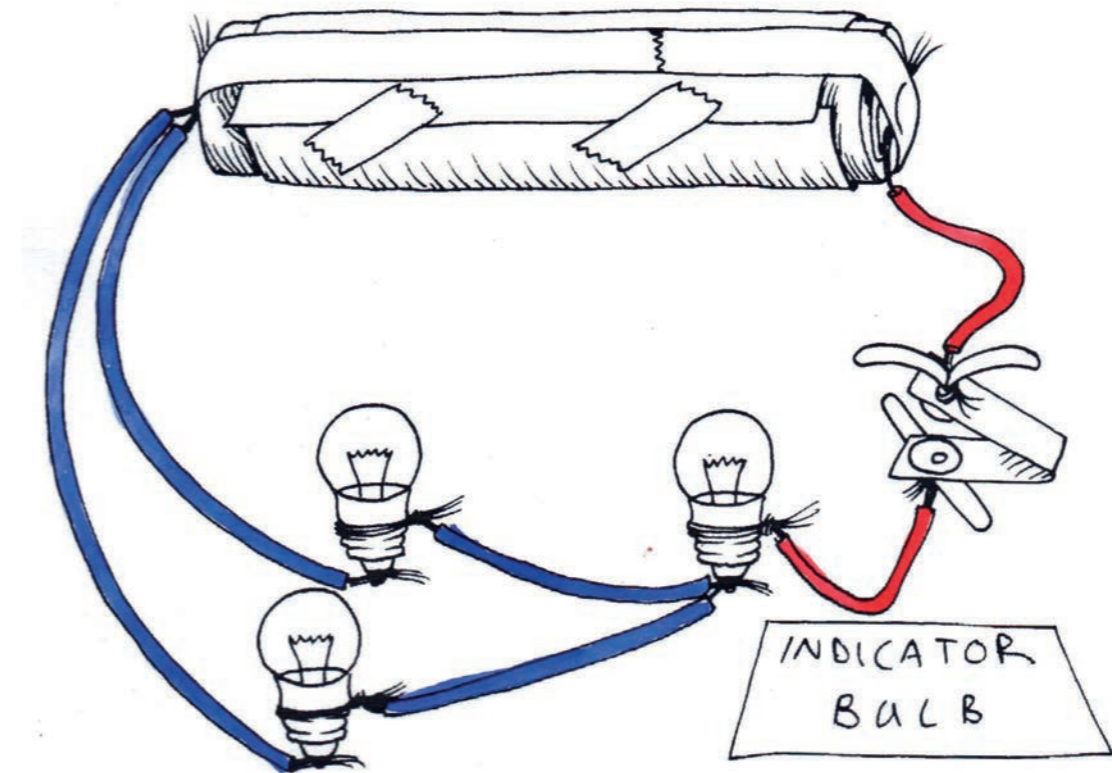
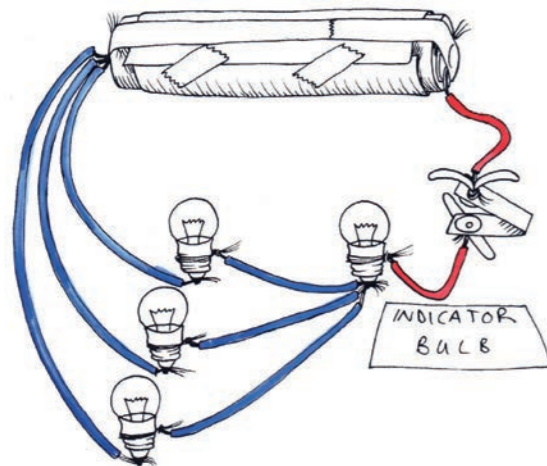

Figure 6
Figure 7
Now connect another light bulb to that circuit, in the way shown in Figure 6 below.
Look at the circuit in Figure 7.
2. Will the indicator bulb be as bright, brighter or dimmer than in Figure 6?
3. Test your idea. Make the circuit in Figure 6 and then add a bulb as in Figure 7.